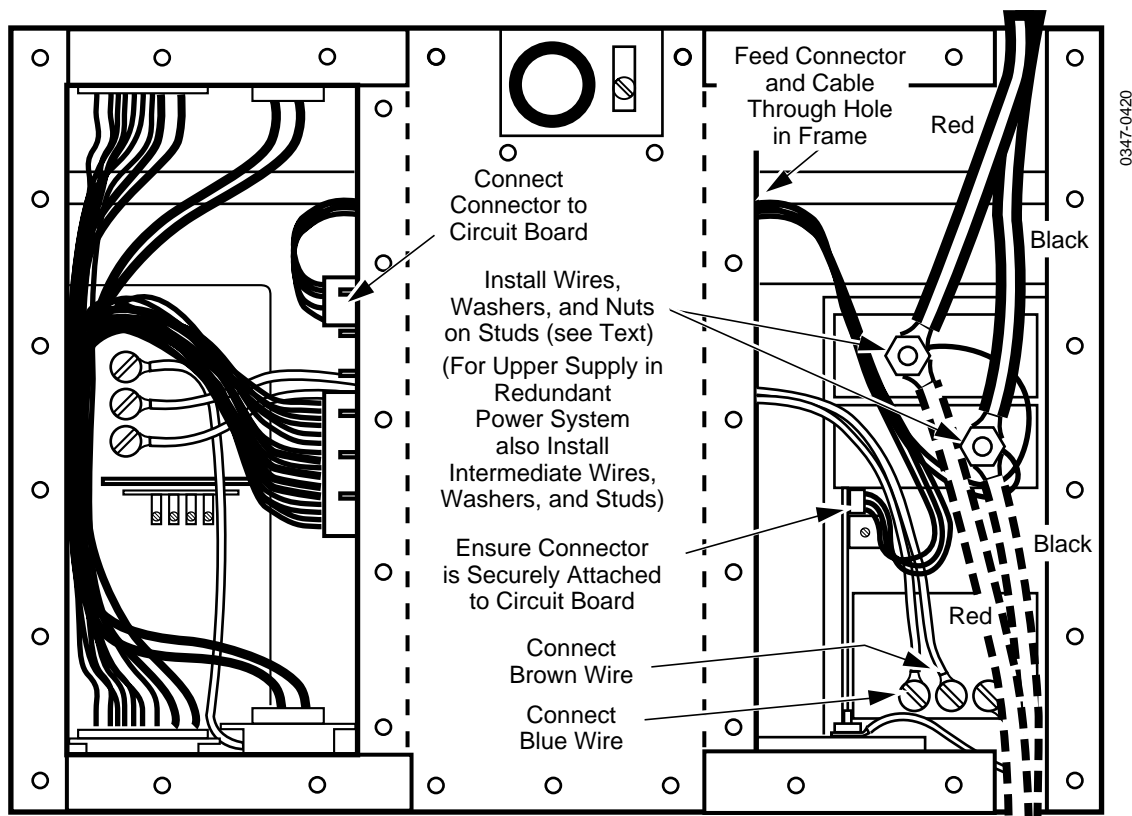

Figure 4-9. Installation of Todd +5 Volt Power Supply Assembly
2. Feed the small multi-wire cable from the new power supply through the hole at the top left of the +5V supply compartment (see Figure 4-9), and on through the frame to the hole into the Multi-Output supply compartment. If necessary, gain access from the front of the frame.